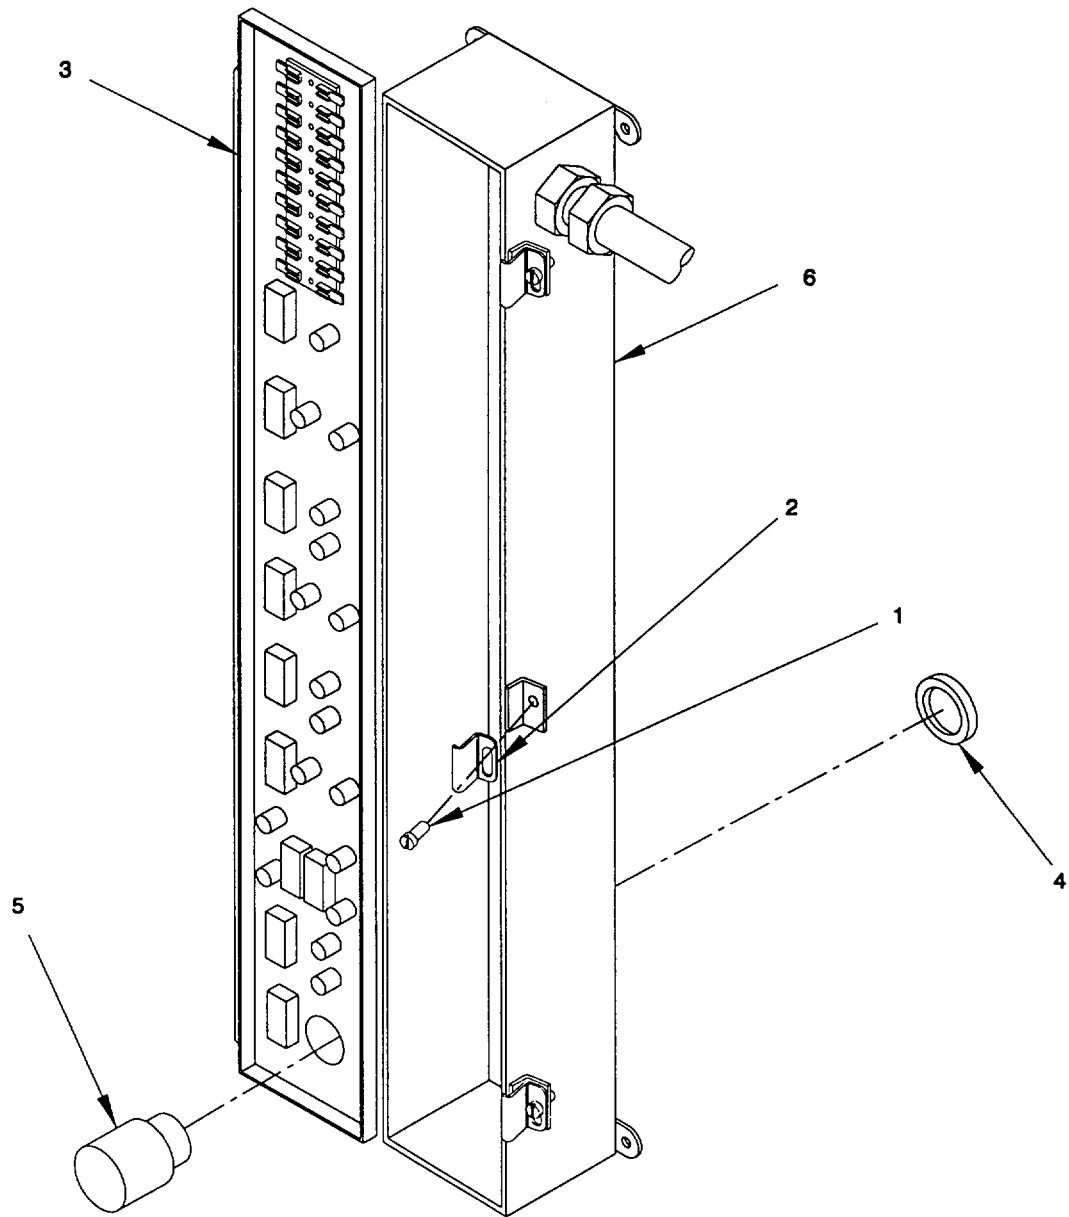

Figure 2-155. Sonalert Beeper, Mast Enclosure, Remove/Install.
- a. *Remove.* (figure 2-155)
- (1) Remove three screws (1) and three clamps (2) securing door (3) to mast enclosure (6).
- (2) Open enclosure door (3) to access interior of mast enclosure (6).
- (2) Disconnect electrical wiring to sonalert beeper (4) and tag OUT OF SERVICE. Refer to Appendix G.
- (3) Remove the knurled nut (4) from the front side of the mast enclosure door (3) and pull the sonalert beeper (5) through the back side of the mast enclosure door (3).
- b. *Install.* (figure 2-155)
- (1) Position new sonalert beeper LS1 (2) from back side of the enclosure (1) door. Secure with the knurled nut (1) on the front side of the enclosure door.
- (2) Connect electrical wiring, as tagged, to sonalert beeper (2). Refer to Appendix G. Use tie wraps to secure any loose wires.
- (3) Close mast enclosure door (3) and secure with three clamps (2) and three screws (1).